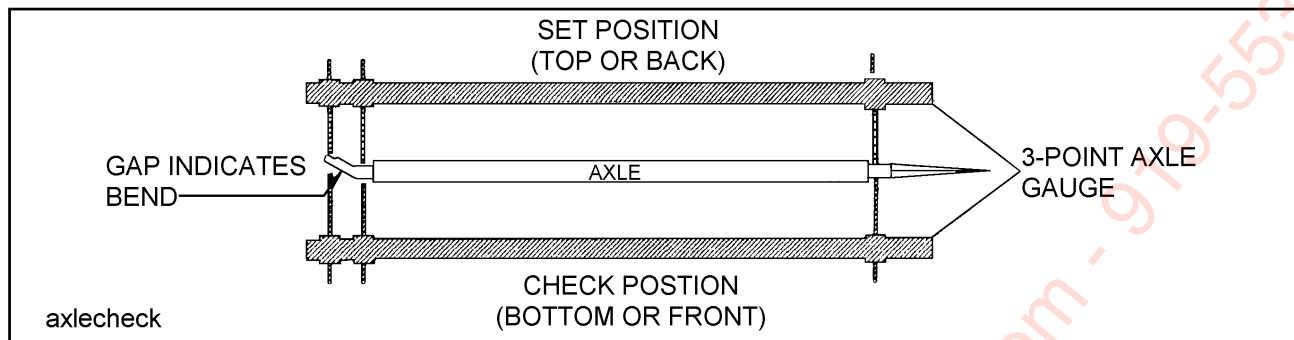

Figure 4-8 Checking Axle for Bend
- b. Place a 3-point axle gauge against the front side of the axle, and adjust each axle gauge point to the axle. (Double point end against the inner and outer wheel bearing surfaces of the spindle being checked and the other point on the inner bearing surface on the other spindle.) (See Figure 4-8).
- c. Move the axle gauge and place against the back side of the axle. If either of the points of double point end fails to touch the axle surface, a bent spindle is evident. A point gap of .015" or more is considered excessive tire "toe" and the axle must be replaced (See Figure 4-8).